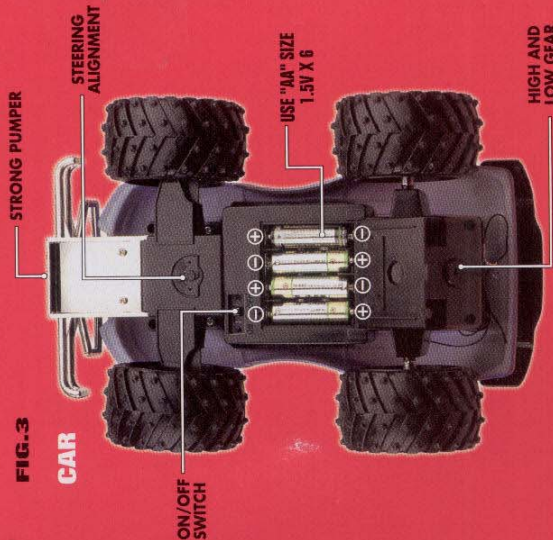

FIG. 3
- 3** IF THE CAR FAILS TO GO STRAIGHT ADJUST THE NEUTRAL STEERING ALIGNMENTS ON THE BOTTOM OF THE CAR AS SHOWN. **FIG.3**
- FIG. 3 CAR.**